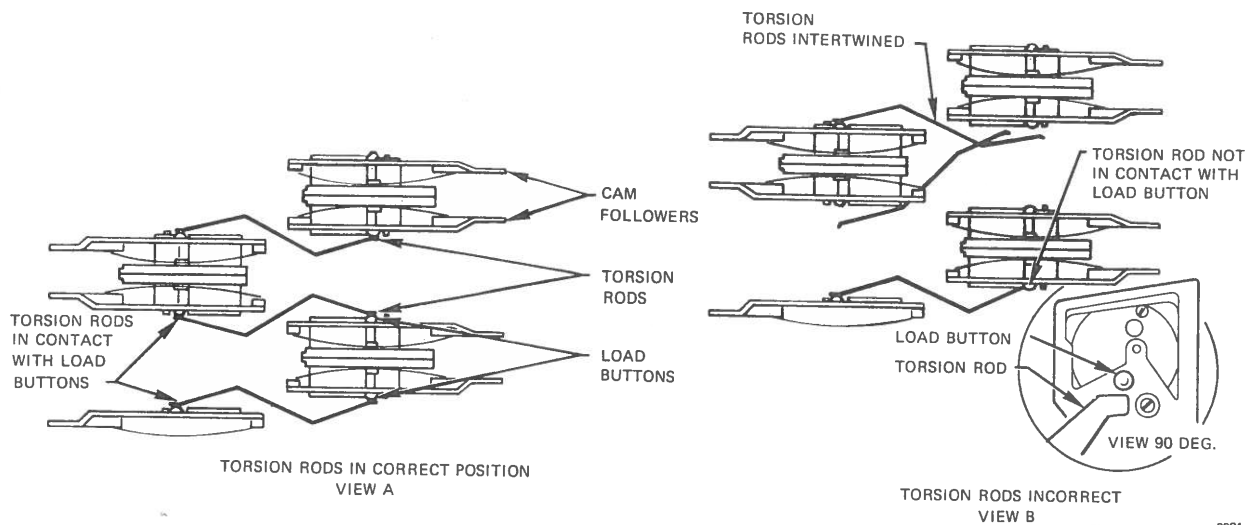

Figure 5-3. Torsion Rod Check
2. Inspect all heads to ensure that torsion rods rest on load button and cam-follower surfaces on arms properly engage the cams (figure 5-3).